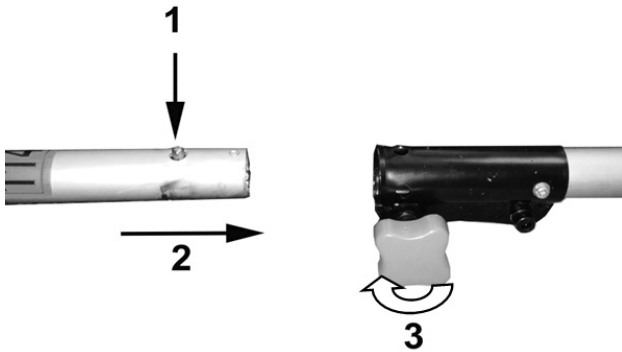

Fig.4
2. Slide the bottom part of the shaft into the grip the top. (Fig.4 Step1&Step2)